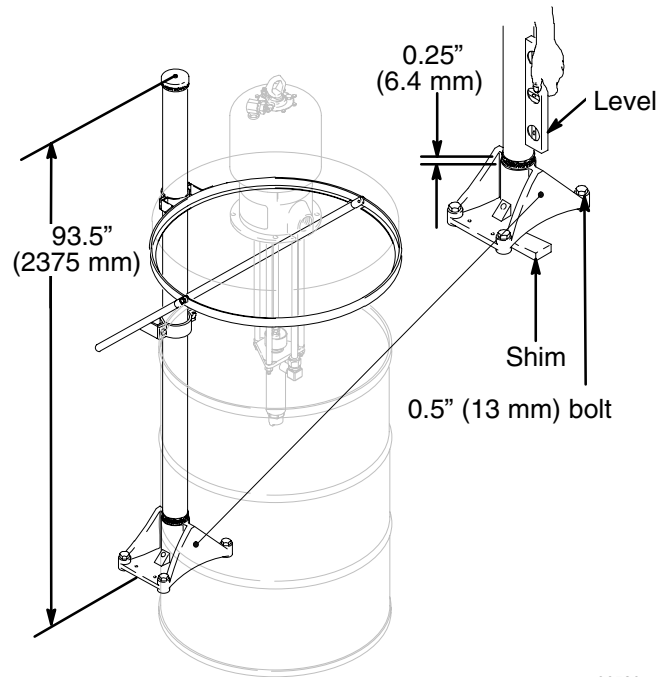

Fig. 2
Locate the elevator where there is at least 9 ft (2.75 m) overhead clearance. Mark and drill holes for 0.5 in. (13 mm) mounting bolts. See Fig. 2 and the dimensional drawing on page 15. Level the base (17), using shims if necessary. Secure the base to the floor using four 1/2 in. (13 mm) mounting bolts which are long enough to prevent the elevator from tipping.